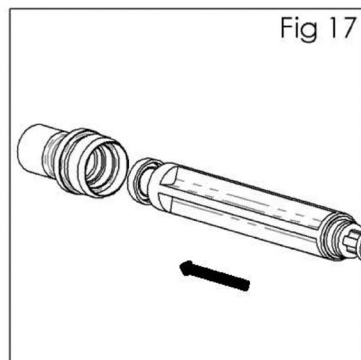

Fig 17
15. Fit new seal (22) to service tool (44). Groove must face outwards. Press seal (22) to housing (27). (See fig 17)
16. Reassemble remaining parts in reverse order — valve (20), spring (21), housing (27) and tighten with 6mm hex key, needle (24) spring (29) and knob (28). Replace trigger (39), fitting trigger stud (40), screw in the trigger screw (38) with Star T20 tool.
17. Trigger gun fully and screw in fluid adjusting knob (28) until it stops. Back it off 1/2 turn and gun will have full needle travel.